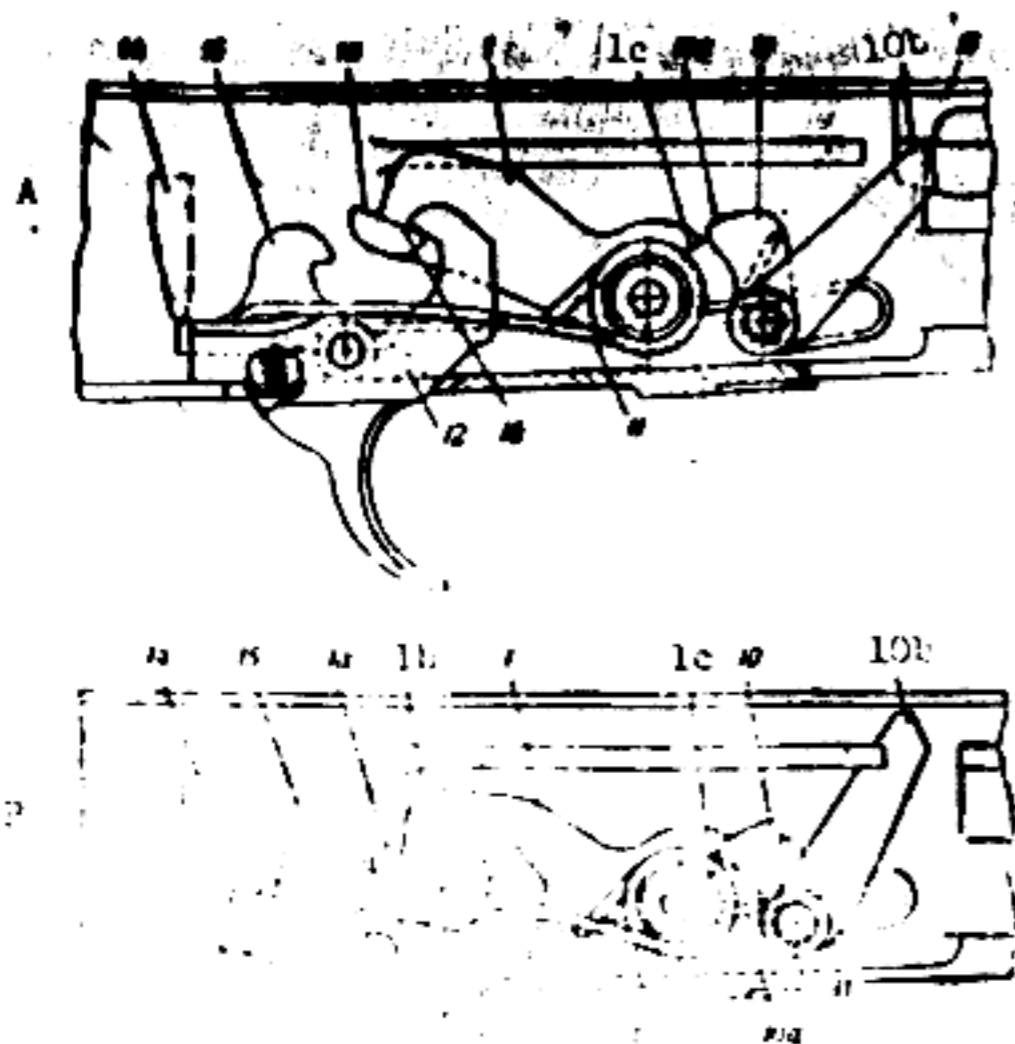
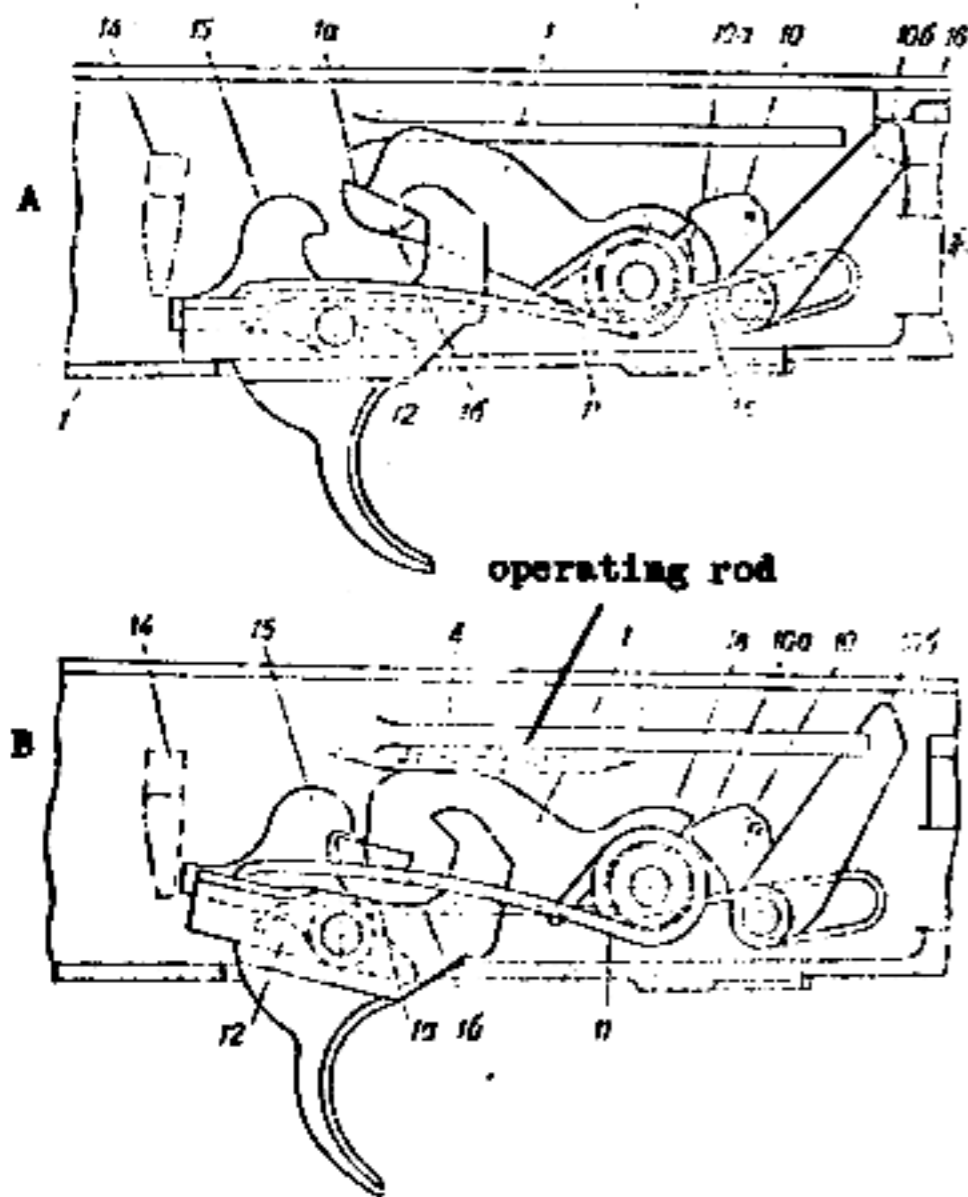

Figure 60. Trigger mechanism in position for full automatic fire.
Figure 61. Trigger mechanism in position for semiautomatic fire.
When the selector is set for full automatic fire (fig. 60), the passage for the cocking handle is cleared. At the same time, the selector lever lug (14) moves to the rear far enough to release the rear end of the trigger while still remaining directly above the rear end of the disconnecter (15). Thus, while the trigger is free to rotate, the selector lever lug still prevents the disconnecter from rotating. When the selector is set for semiautomatic fire, the selector lever moves all the way to the rear, releasing both the trigger and the disconnecter (15). Thus the disconnecter is free to rotate with the semiautomatic sear when the trigger (12) is pressed.\*
The hammer continues to be propelled to the rear, first by the lug on the rear of the operating rod and then by the large lug forming the bottom of the operating rod. As the hammer rotates to the rear, the head of the hammer depresses the semiautomatic sear; and since the pressure on the trigger remains constant, the semiautomatic sear engages the hammer cock notch as soon as the head of the hammer has passed the sear (position of trigger mechanism as in A, fig. 60). When the hammer has reached the extreme rear position, the full automatic sear notch is located opposite the cock notch on the full automatic sear; at this point the full automatic sear spring rotates the full automatic sear to the rear, engaging the full automatic sear cock notch (10a) with the full automatic sear notch (1c) in the hammer (position of trigger mechanism as in B, fig. 60). Simultaneously, the upper end of the full automatic sear rises and obstructs the full automatic disconnecter.
After the bore is sealed, the operating rod continues to move forward. The full automatic disconnecter rotates the upper end of the full automatic sear forward, disengaging the full automatic sear cock notch (10a) (fig. 60) from the full automatic sear notch in the hammer. The hammer rotates forward, engaging its semiautomatic sear notch (1a) (fig. 61) with the semiautomatic sear. This is accompanied by an audible click.
The full automatic sear spring rotates the full automatic sear into engagement with the full automatic sear notch in the hammer. The full automatic sear, however, does not hold the hammer in the cocked position, since the disconnecter (15, fig. 61) is already performing this function. As the full automatic sear rotates, the upper end of the sear rises to obstruct the passage of the full automatic disconnecter.
When the trigger is released, the hammer and trigger spring rotates the disconnecter and semiautomatic sear to the rear, disengaging the disconnecter from the disconnecter notch in the hammer. The trigger and hammer spring (11) (fig. 61) rotates the hammer (1) until the hammer cock notch (1b) engages the semiautomatic sear. This is accompanied by an audible click.
When the trigger is pressed, it rotates on the trigger pin. The disconnecter (15) (fig. 60) does not engage the disconnecter notch in the hammer, since the disconnecter is prevented from rotating by the selector lever (14).